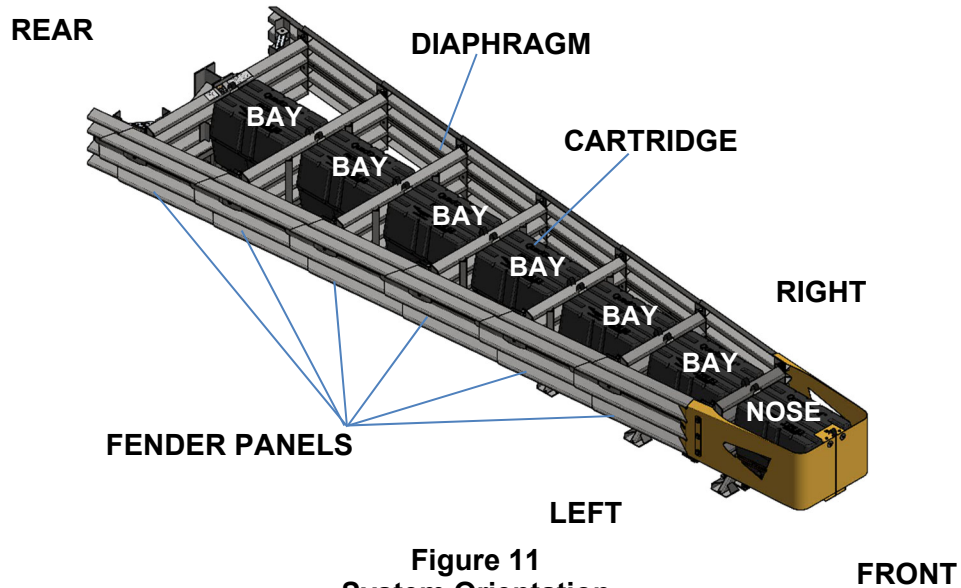

Figure 11
**Note:** There will always be one more Cartridge in the system than the number of Bays in the system. To determine number of Bays, count Fender Panels on one side (Figure 11).